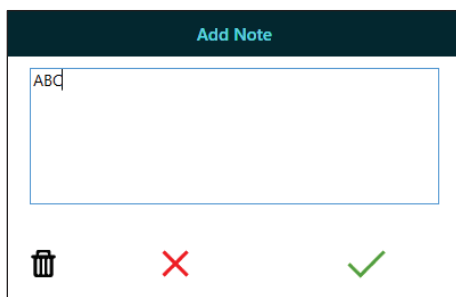

Figure 9. Add Note
2. Enter text in the Add Note window (*Figure 9*).
- Add note.** Click icon and then click in desired location in graph to open Add Note window (see Figure 9). Enter text and select check mark to save. An “N” will be displayed at the top of the graph. To view and/or edit note, see Step 6 below.